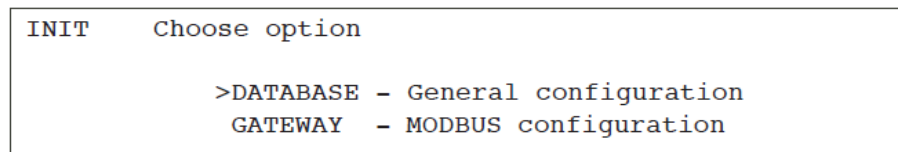

Figure 133 Configurator Initial Menu
4. Type <1> for the ANSI-CRT option. A log-in screen appears. Once a valid user ID and password have been entered for a user with Remote attribute enabled, the configurator Initial menu appears as depicted in Figure 133.
The Initial menu (Figure 133) lists two options — Database and Gateway. Select Database to access the Main menu for configuring a LIN database. This is described in "Database Configuration" on page 257. Select Gateway to access the Gateway menu, for setting up a Modbus configuration, described in "Modbus Configuration" on page 266.